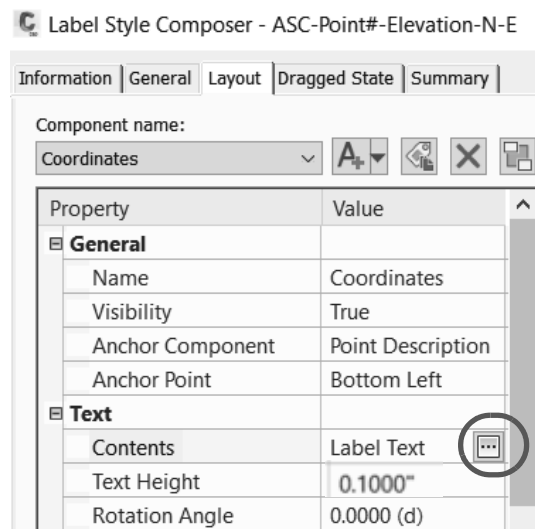

Figure 2–35
10. Click  in the *Contents* cell, next to *Label Text*, as shown in Figure 2–35.